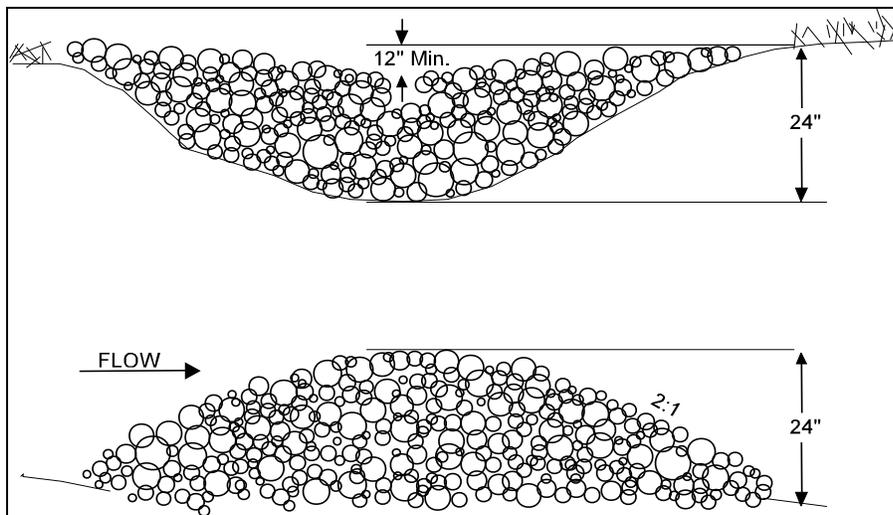
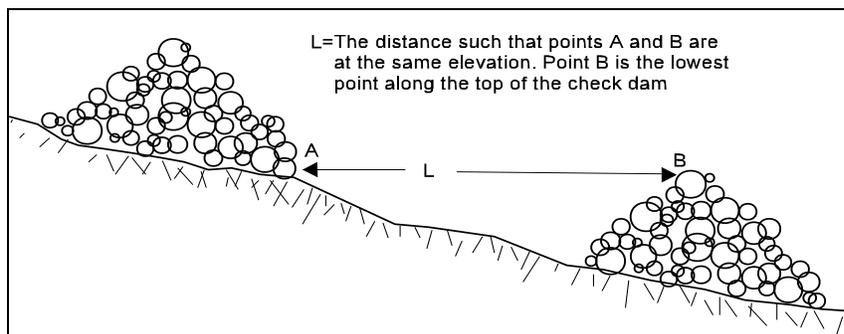

Figure 27. Cross Sectional Views of a Check Dam.
Figure 28. Check Dam Spacing.
- **Check Dams** - Check dams (see Figure 27), generally constructed of rock, may be necessary to reduce the velocity of flow in roadside ditches or other concentrated flow areas. Check dams can reduce the potential for erosion and protect vegetation in the early stages of growth by reducing water flow to non-erosive velocities. See Figure 28 for proper spacing of check dams. For rock based check dams, construct the check dam using rock having a range of sizes from 3-12 inches in diameter (average 6 inches). The key is that the rock stays in place to withstand strong concentrated runoff flows.